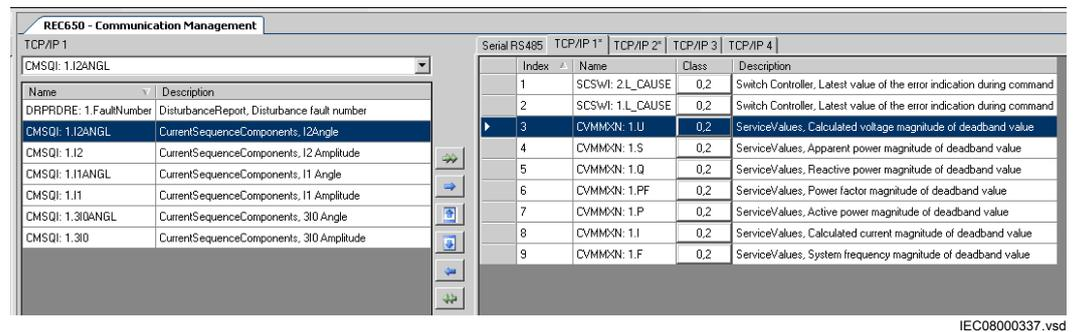

Figure 74: CMT: Container window design when selecting DNP3 protocol
3. Select the DNP3 protocol from the new window and click *OK*. Figure 74 presents the design of the two container windows, which open after the selection of DNP3.
- The left window has a drop down menu for signal selection and buttons for signal movement, see Figure 74.